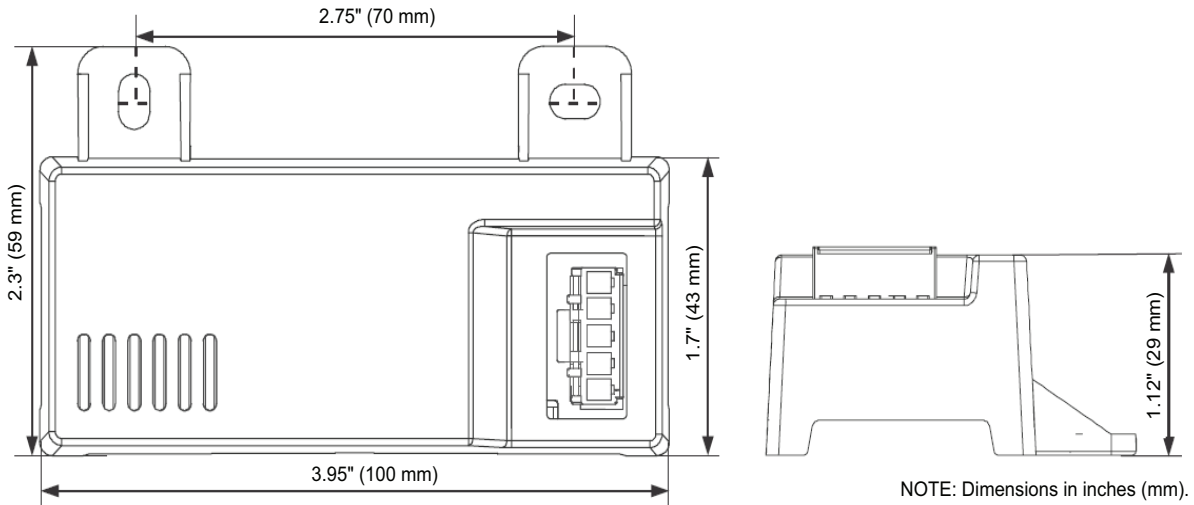
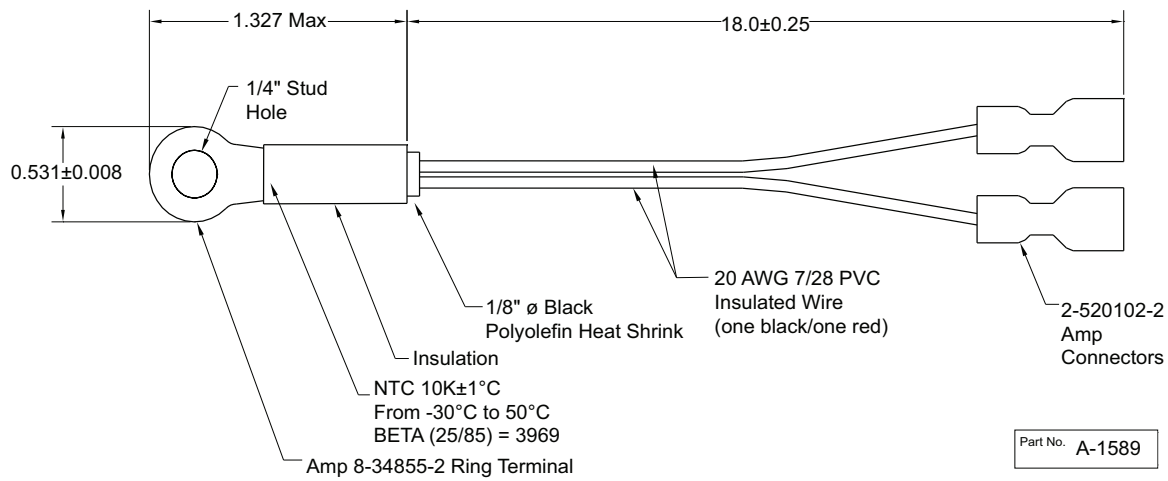
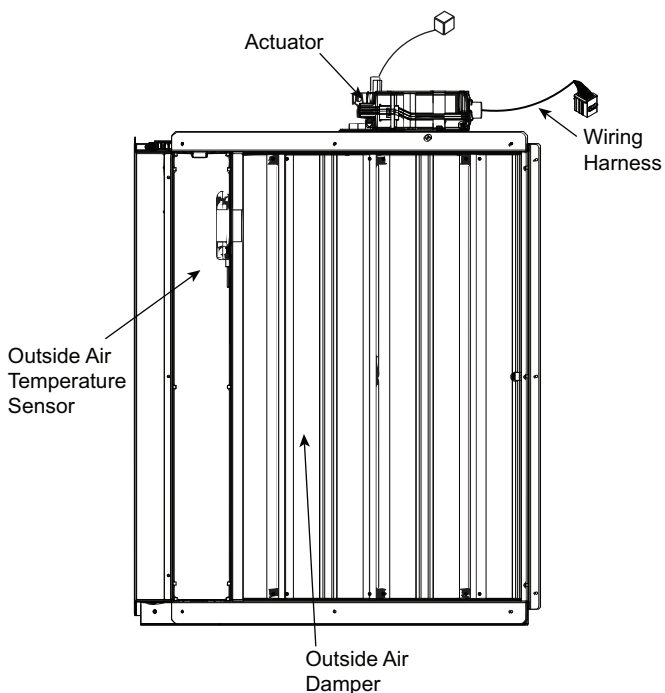

Fig. 87 – HH57LW001 Dimensional, Connection and Switching Information
Fig. 88 – HH79NZ039 Dry Bulb and Mixed Air Sensor Wiring
Fig. 89 – EconomizerONE Component Locations (CRECOMZR108A00 Shown)
When using the HH57LW001 enthalpy sensor (see Fig. 87) for outside air changeover, the existing HH79NZ039 dry bulb sensor (see Fig. 88) must be removed. The enthalpy sensor will be mounted in the same location as the dry bulb sensor (see Fig. 89). When the enthalpy sensor's OA (Outside Air) temperature, enthalpy, and dew point are below their respective setpoints, the outside air can be used for free cooling. When any of these are above the setpoint, free cooling will not be available. Enthalpy setpoints are configurable and create an enthalpy boundary according to the user's input. For additional details, see Fig. 90-91 and Table 33.
The optional enthalpy control sensor (P/N: HH57LW001) communicates with the POL224 economizer controller using the 5-wire harness, 48TC005213. The HH57LW001 sensor can be used as a single outside air enthalpy, a differential return enthalpy, or a differential return temperature sensor. Refer to the base unit control wiring diagrams found earlier in this book to wire the HH57LW001 enthalpy sensor for each option. Use Fig. 87 and Table 35 on page 64 to locate the wiring terminals for each enthalpy control sensor.
Economizers are shipped standard with an HH79NZ039 outside air dry bulb sensor (see Fig. 88). System default setting (high temp limit) is 63°F (17°C) and has a range of 48°F to 80°F (9°C to 27°C). Sensor is factory installed on economizer.
If installing the optional HH57LW001 enthalpy sensor, the HH79NZ039 dry bulb outside air sensor must first be removed. Wire sensor to harness 48TC005213 and the (5) wires from the harness to the EconomizerONE harness in the return air chamber. Harness 48TC005213 has a 5-pin plug that connects directly to the HH57LW001 enthalpy sensor. Refer to the base unit control wiring diagrams earlier in this book for wiring connections. Refer to Fig. 87 and Table 35.